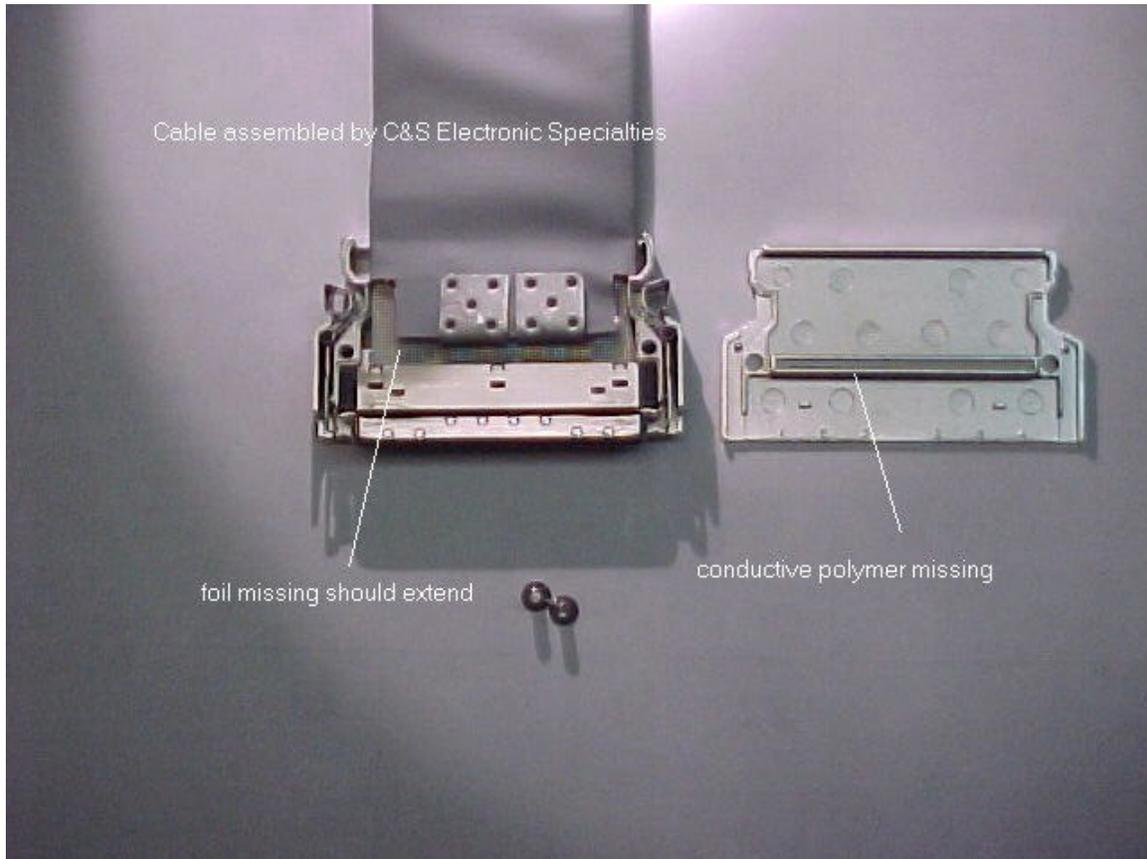

Figure 1
- The first example is a 68 conductor cable assembly which has a major problem since there is no ground from the case to the foil shield. See figure 1.